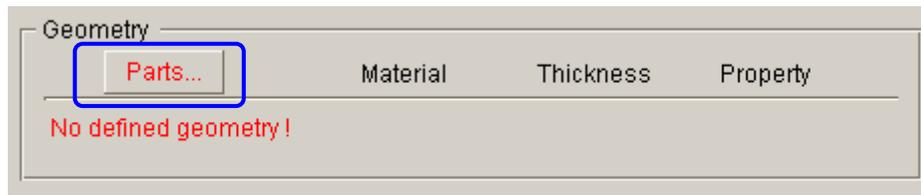

Figure 3.7 Define tube
2. Then click **Parts...** button from **Geometry** field in the tube definition interface, as illustrated in Figure 3.7.